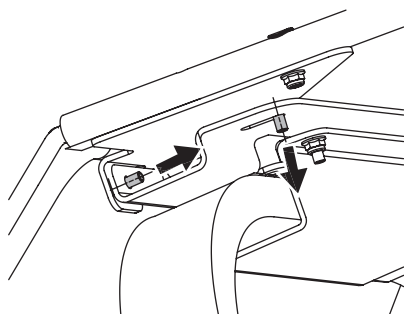

Figure 7
1. Placing the completed frame on top of the ROPS brackets, slide the frame into place until it can't move anymore and that the pre-installed bolts are in the holes and slots as shown in Figure 7.
2. Lift up while moving the frame backwards to remove the canopy from the ROPS brackets. This is the opposite movement as shown in Figure 7.